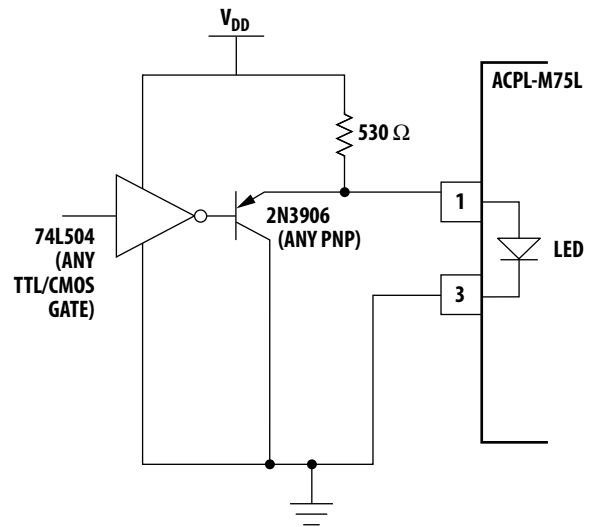

Figure 15. TTL interface circuit for the ACPL-M75L families.
1. Use of drive circuits where current is shunted from the LED in the LED "off" state (as shown in Figures 15 and 16). This is beneficial for good CM_H .
Using any one of the drive circuits in Figures 15-17 with $I_F = 6\text{mA}$ will result in a typical CMR of $10\text{ kV}/\mu\text{s}$ for ACPL-M75L, as long as the PC board layout practices are followed. Figure 15 shows a circuit which can be used with